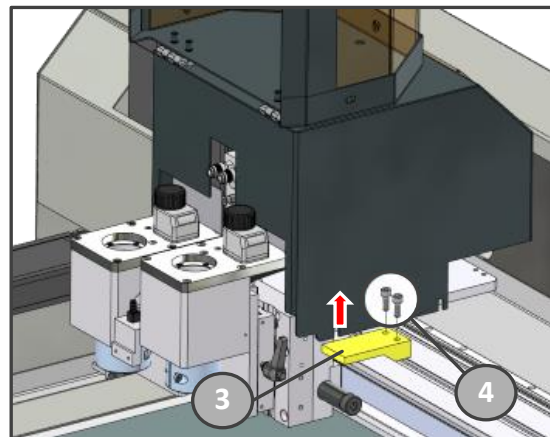

Figure 5-10
Remove the head block (3) by unscrewing the two fastening screws (4) with the wrench supplied Figure 5-10.